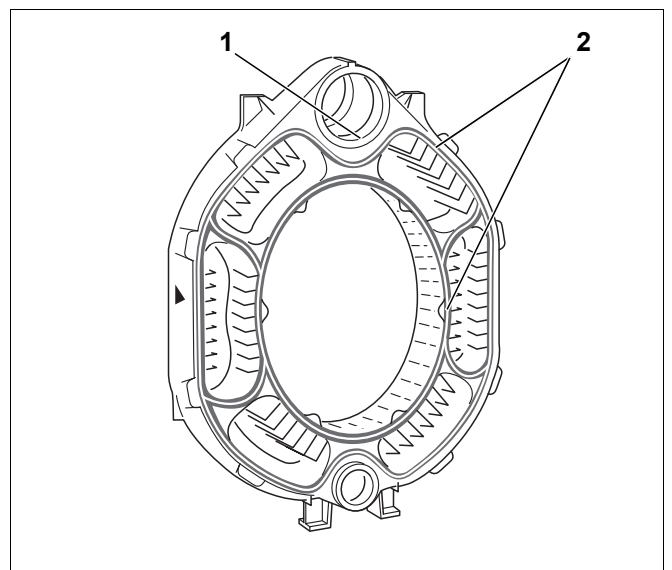

Fig. 12 Preparation of the central section
- Coat the hubs with the orange sealing compound (Marked as (LEINOMENNIGE)) (Fig. 12, **Item 1**).
- Coat the sealing grooves with primer (Fig. 12, **Item 2**).